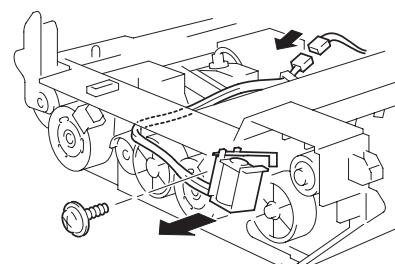

Figure 4-55. Removing the Duplex Unit Skew Correction Solenoid
3. Disconnect the one connector. (See Figure 4-55)